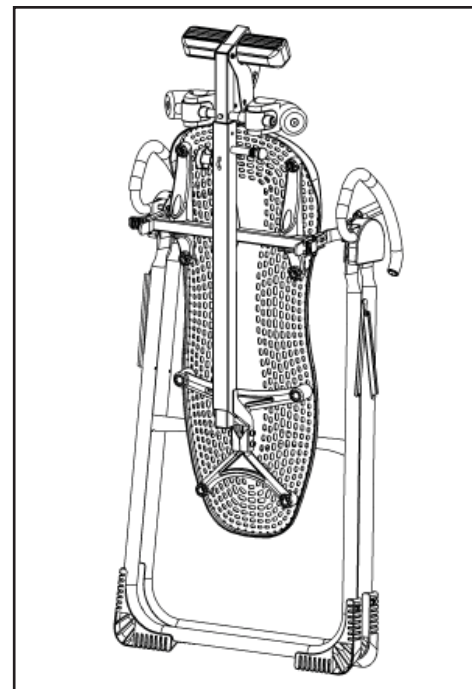

Figure 23
- Pull up on the spreader arms to fold the A-frame (Figure 23). **WARNING: This operation may pinch fingers if not done slowly and carefully.**